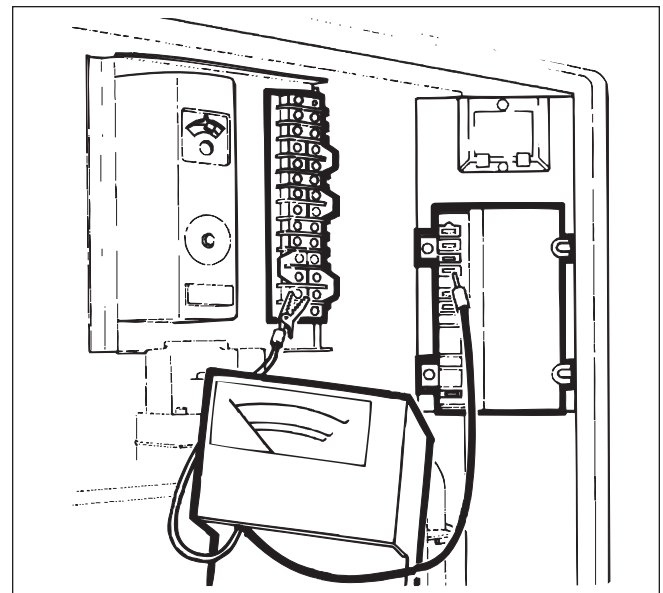

Figure 43. Flame sensing current.
2. If everything appears all right, measure flame sensing current by connecting a direct current (DC) microamp meter between terminal No. 12 and the GND (BURNER) terminal on the ignition control (see Figure 43).